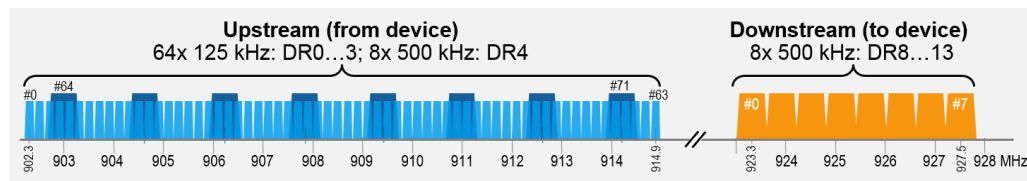

Figure 1-11: LoRaWAN channel assignment in North America
1) LoRaWAN defines 64, 125 kHz wide uplink channels from 902.3 MHz to 914.9 MHz in steps of 200 kHz. In addition, there are eight 500 kHz wide uplink channels with an interval of 1.6 MHz in the range 903 MHz to 914.9 MHz. The eight downlink channels are 500 kHz wide and are in the range 923.3 MHz to 927.5 MHz (Figure 1-11).